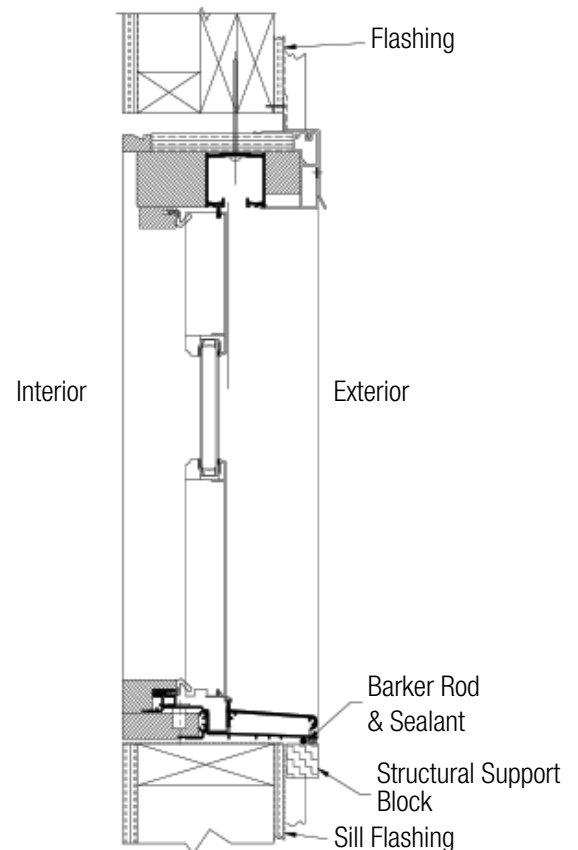

FIG. 20
- B) After siding or wall exterior is complete, apply backer rod and sealant between the door frame and siding material on both sides and sill. Make sure to use 100% silicone sealant. (Fig 20)
- C) Insulate between the door frame and the rough opening using minimally expanding window and door spray foam insulation. Use caution to not overfill the gap causing the jambs to bow. It is not recommended to apply trim to the unit until the foam has cured to allow the excess to escape. (Fig. 20 & 21)